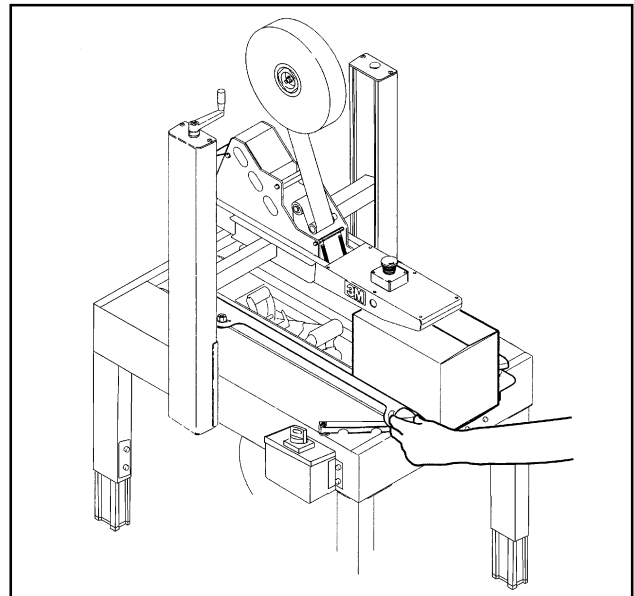

Figure 3-4—Check Adjustments
3. RUN BOXES TO CHECK ADJUSTMENT (Figure 3-4)